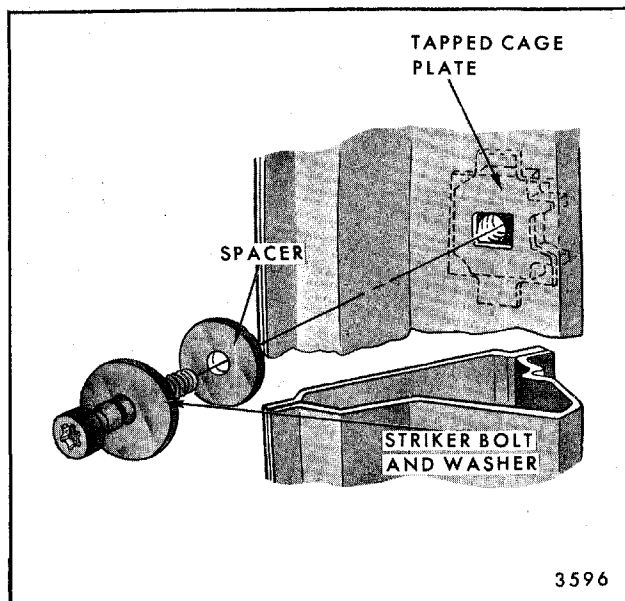

Fig. 5-50-Door Lock Striker Installation
2. Insert tool J-23457, BT-7107 or equivalent into the star-shaped tool recess in the head of the striker bolt and remove striker (refer to Fig. 5-50).